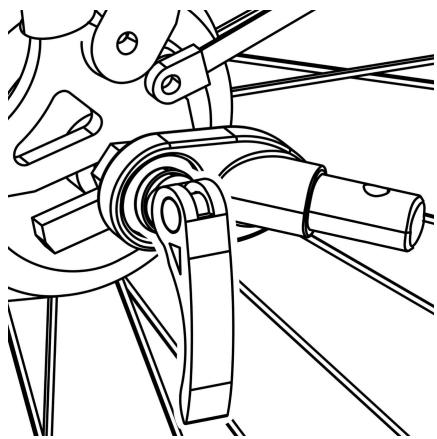

Figure 11
**1. Quick-release Axle:** Remove the quick-release from the left side of bike's rear axle. Install the hitch between the quick-release and frame. Tighten the quick-release following the bike manufacturer's manual. Hitch can remain on the bike when the trailer is removed (Figure 11).